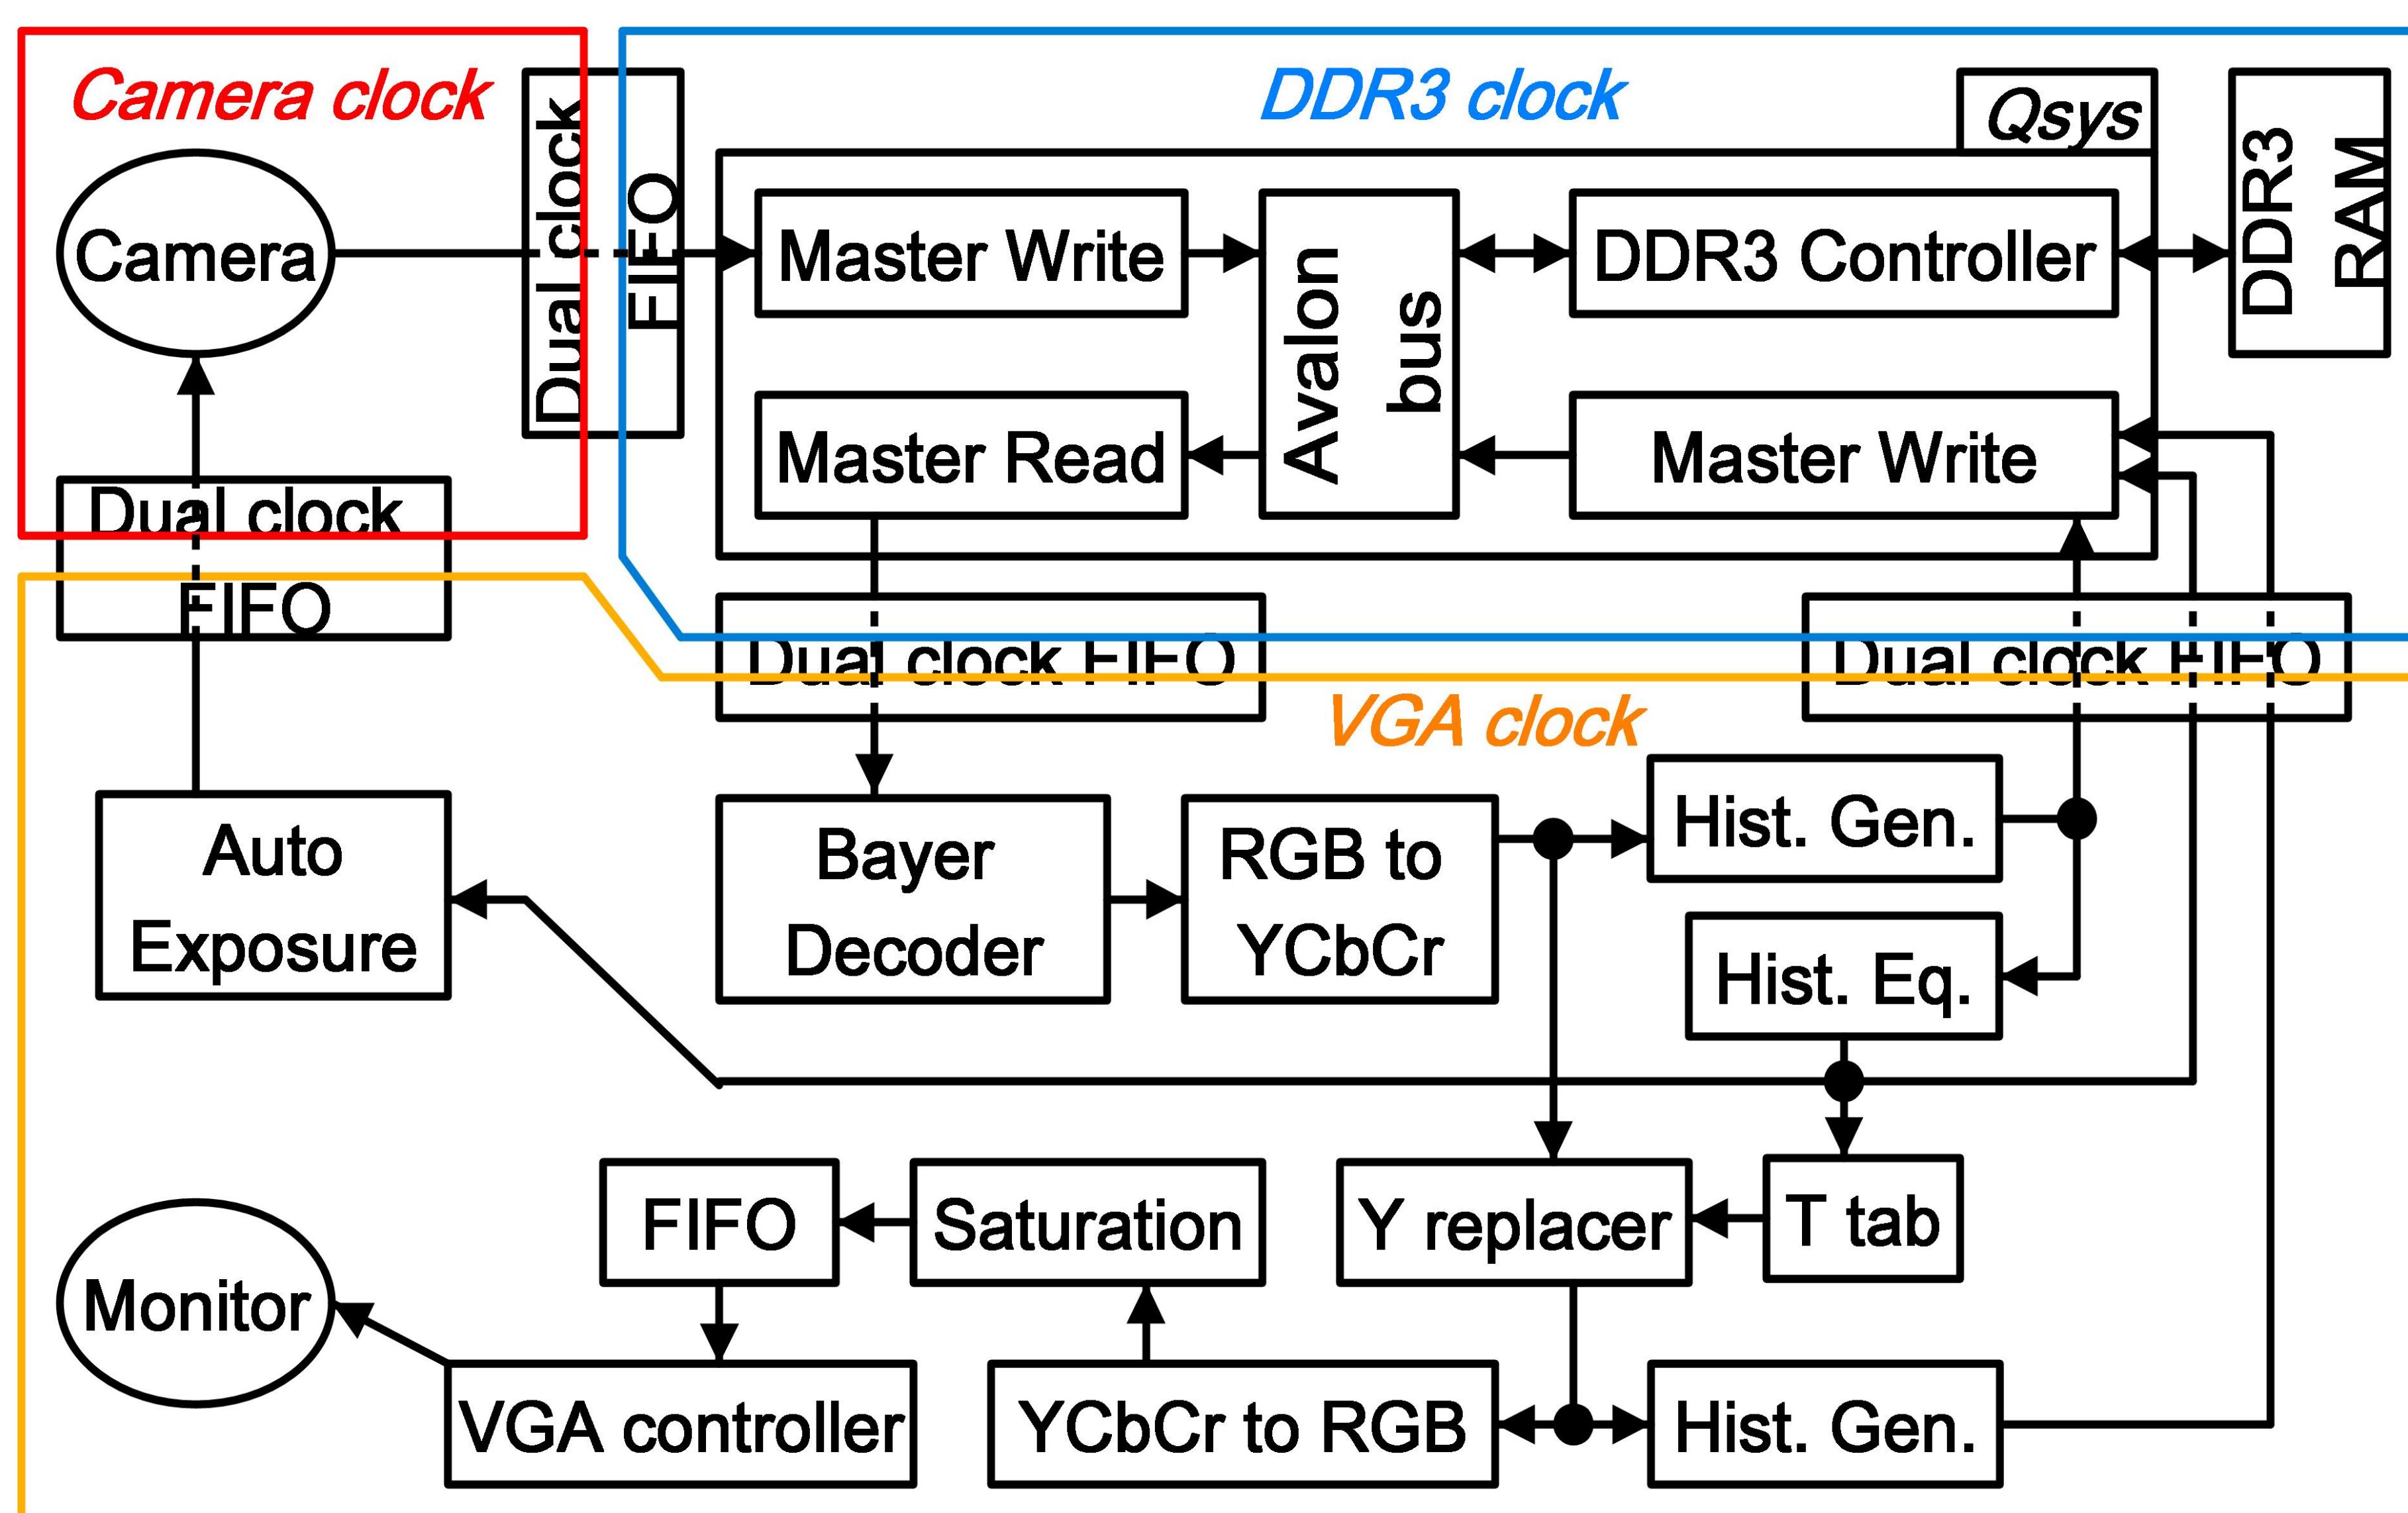

Fig. 1: The system block diagram.
Fig. 1 gives the block diagram of the proposed video-system of Histogram Equalization (HE) with the auto-exposure feature.
- **Two Histogram Generators (HG):** produce two histograms of the before and after the HE process. They operate on the luminance of the Y-value only.
- **Histogram Equalization (HE):** produces the Transformation Function (HE-TF) based on the smooth HE algorithm in [4].